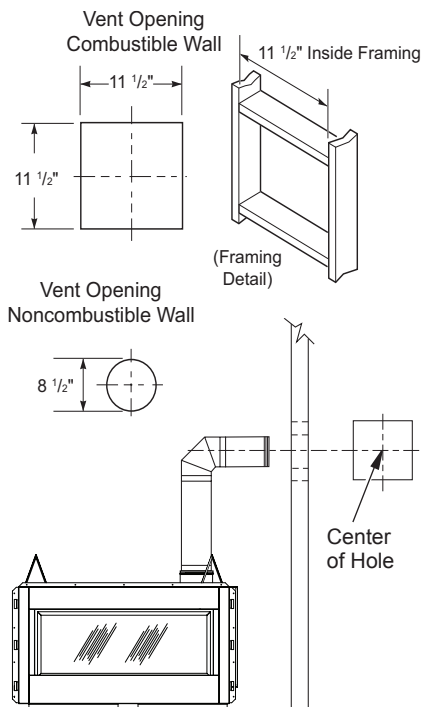

Figure 9 - Vent Opening Requirements
etrated is constructed of noncombustible material, such as masonry block or concrete, a 8 1/2" hole with zero clearance is acceptable (see Figure 9).
1. Cut a 11 1/2" square hole in ceiling using locating hole as a center point. Opening should be framed to 11 1/2" x 11 1/2" inside dimensions, as shown in Figure 9 on page 12 using framing lumber the same size as ceiling joists. If area above ceiling is an insulated ceiling or an attic, nail firestop from top side. This prevents loose insulation from falling into required clearance space. If area above ceiling is a living space, install firestop below framed hole. Firestop should be installed with no less than three nails per side (see Figure 17).
- Cut a hole in the roof using locating hole as a center point. (Cover any exposed open vent pipes before cutting hole in roof.) The 11 1/2" x 11 1/2" hole must be measured on the horizontal; actual length may be larger depending on pitch of roof. There must be a 1" clearance from vent pipe to combustible materials. Frame opening as shown in Figure 9 page 12.